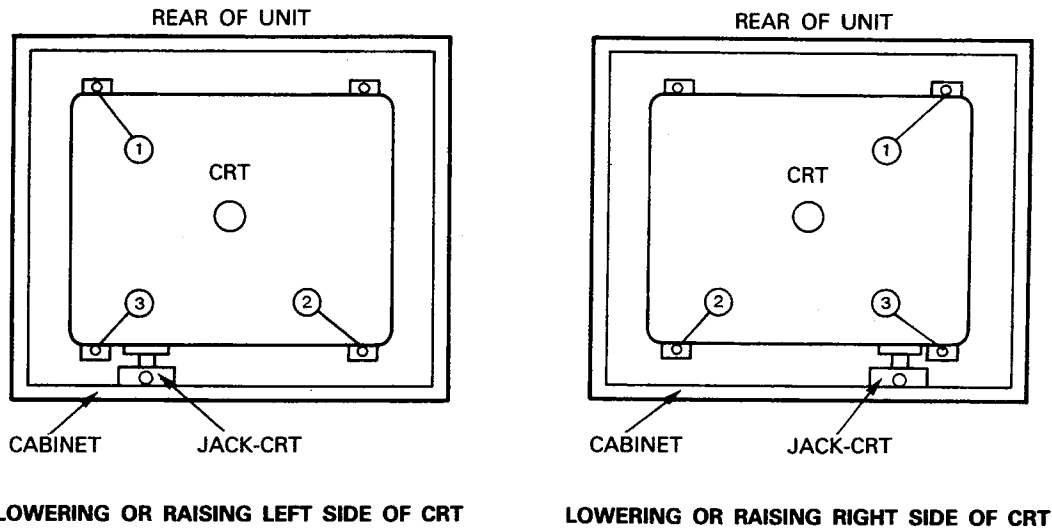

Figure 9
- (1) Insert the JACK-CRT under the side of the CRT to be raised or lowered. (Figure 9)
- (2) Adjust the height of the JACK-CRT so it is flush against the bottom of the CRT.
- (3) Loosen the upper CRT mounting nut on the side to be raised or lowered, then the diagonally opposite lower mounting nut, and lastly the lower mounting nut on the side to be moved, as illustrated in Figure 9.